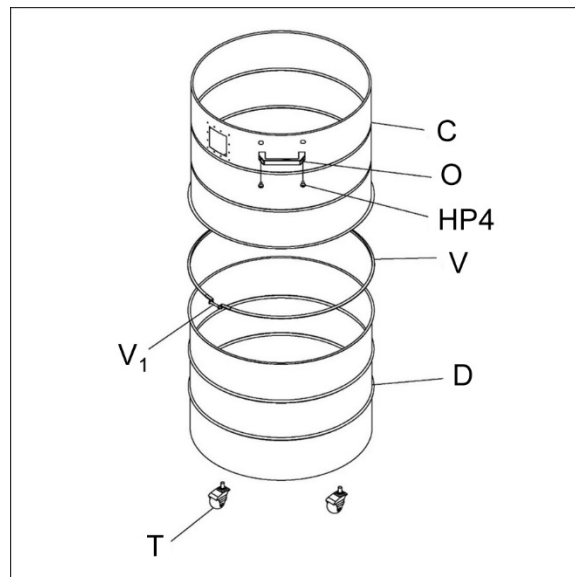

Figure 5-8
13. Assemble upper drum (C, Figure 5-8) to lower drum (D) and secure with drum clamp (V) by tightening screw (V1).
14. Install handle (O) with screws (HP4). Handle should be opposite side from lower ports.
15. Turn drum over and install casters (T) into threaded holes beneath drum. Use the provided wrench to tighten.